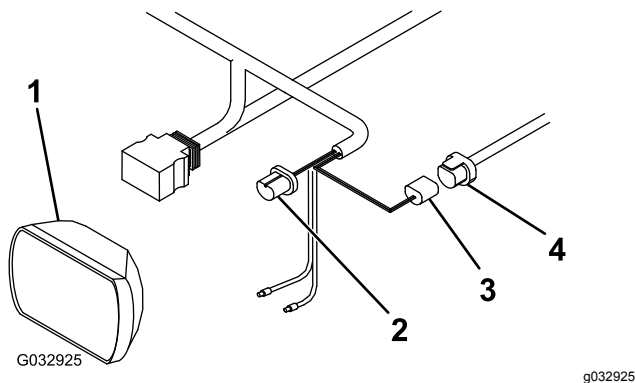

Figure 15
- Disconnect the wire harness plug from the back of the left vehicle headlight (Figure 15).
- Connect the blue plug from the long wire harness to the back of the left vehicle headlight (Figure 15).
- Connect the black plug from the long wire harness to the previously disconnected plug on the vehicle wire harness (Figure 15).